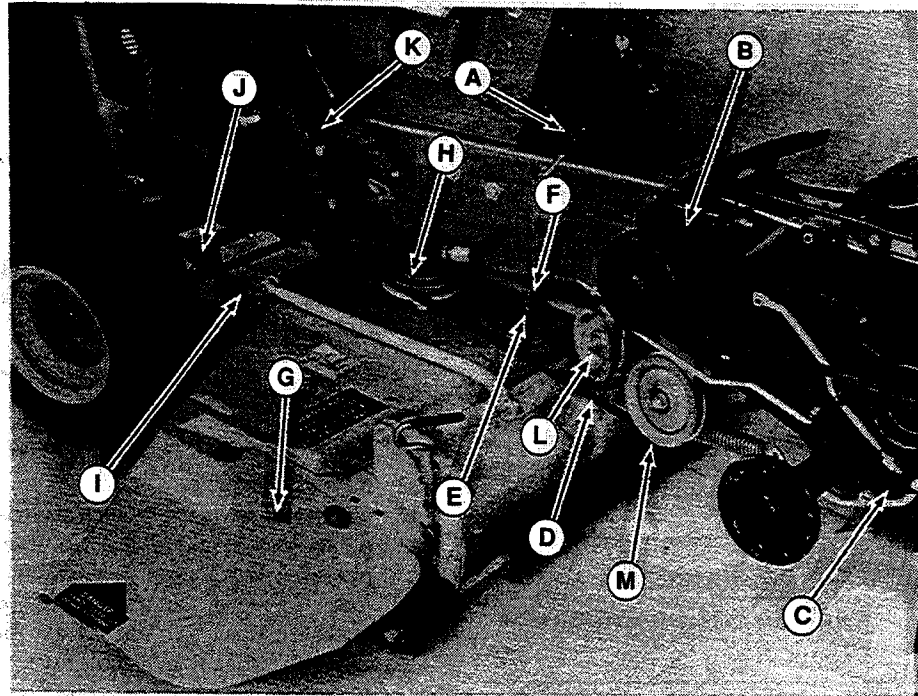

Figure 37. Mower Installation
- Make sure the front idler pulley (L, figure 37) is installed in top mounting tab for mower installation.
8. Push the belt tensioning lever (C, figure 37) fully down and forward.
10. Install the mower drive belt provided on the mower pulley and the tractor pulleys. The belt must be seated in the inner groove of the drive pulley (B). Make sure that flat side of the belt contacts the front idler pulley (L).
12. Pull the belt tensioning lever (C, figure 37) up to tighten the belt. If the belt is
2. Push the belt tensioning lever (C, figure 37) fully down and forward to release mower belt tension.
3. Raise the tractor seat deck and remove the mower drive belt from the mower and tractor pulleys (see figure 37). Close the tractor seat deck.